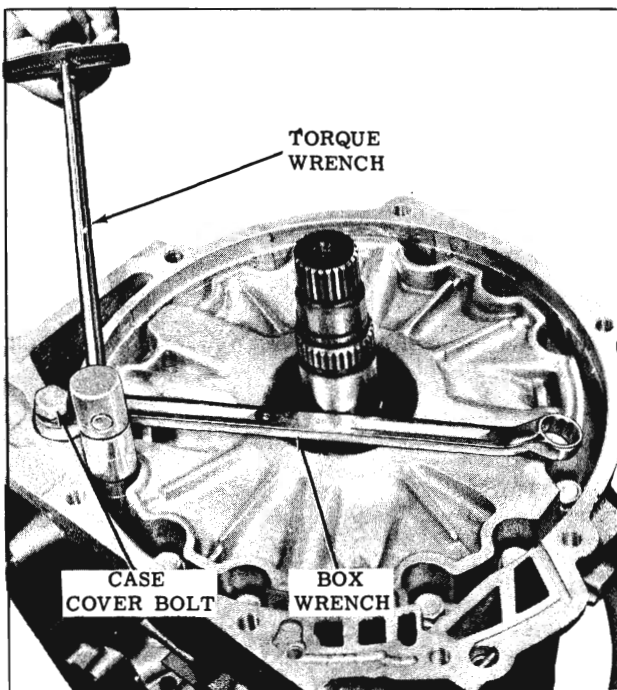

Fig. 3-310 Installing Torus Cover
45. Install 12 torus cover attaching bolts and cross tighten the bolts 10-12 ft. lbs. (Fig. 3-310)